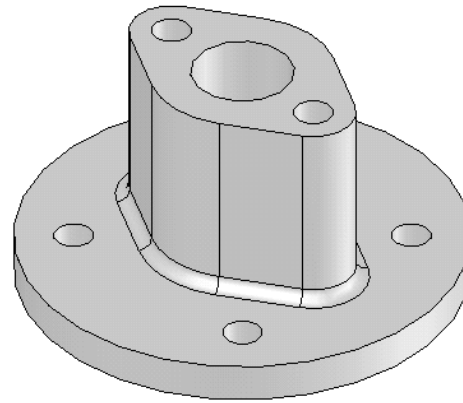

Figure 9-59 Isometric view of the final model
- Create the hole using the **Simple Hole** tool, and then pattern it using the **Circular Pattern** tool, refer to Figure 9-59.
- Create a drilled hole feature using the **Hole Wizard** tool, refer to Figure 9-59.
- Mirror the hole feature along the **Right Plane**, refer to Figure 9-59.
- Apply the fillet, refer to Figure 9-59.
The isometric view of the model, after creating all the other features, is displayed in Figure 9-59.